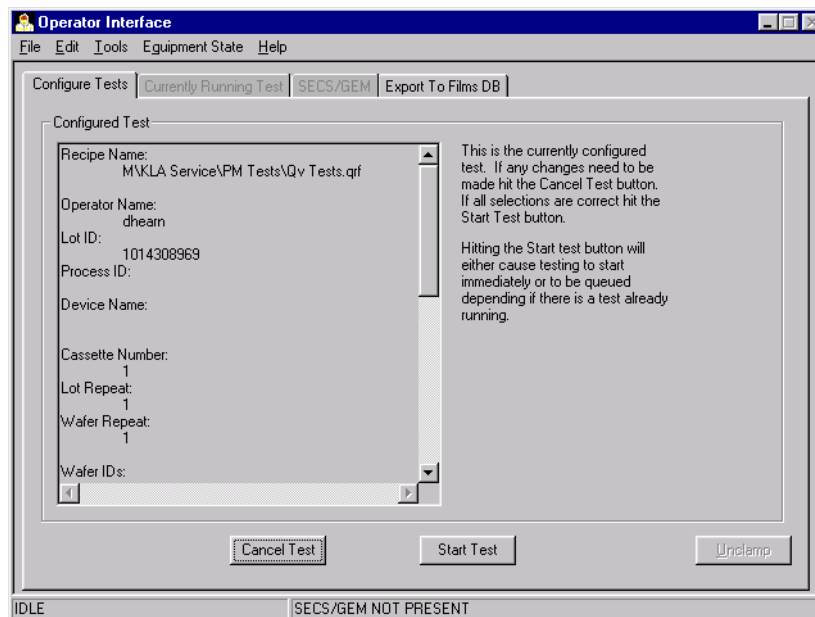

Figure 4-6: Configured Test Page
4. When the selection is complete, click the Next button to proceed to the Configured Test page (Figure 4-6).
The Configured Test page (Figure 4-6) shows a summary of the currently configured test. The page displays the recipe, operator name, lot and process IDs, and other data related to the test. The Configured Test page gives the operator an opportunity to review the test configuration before beginning the test.